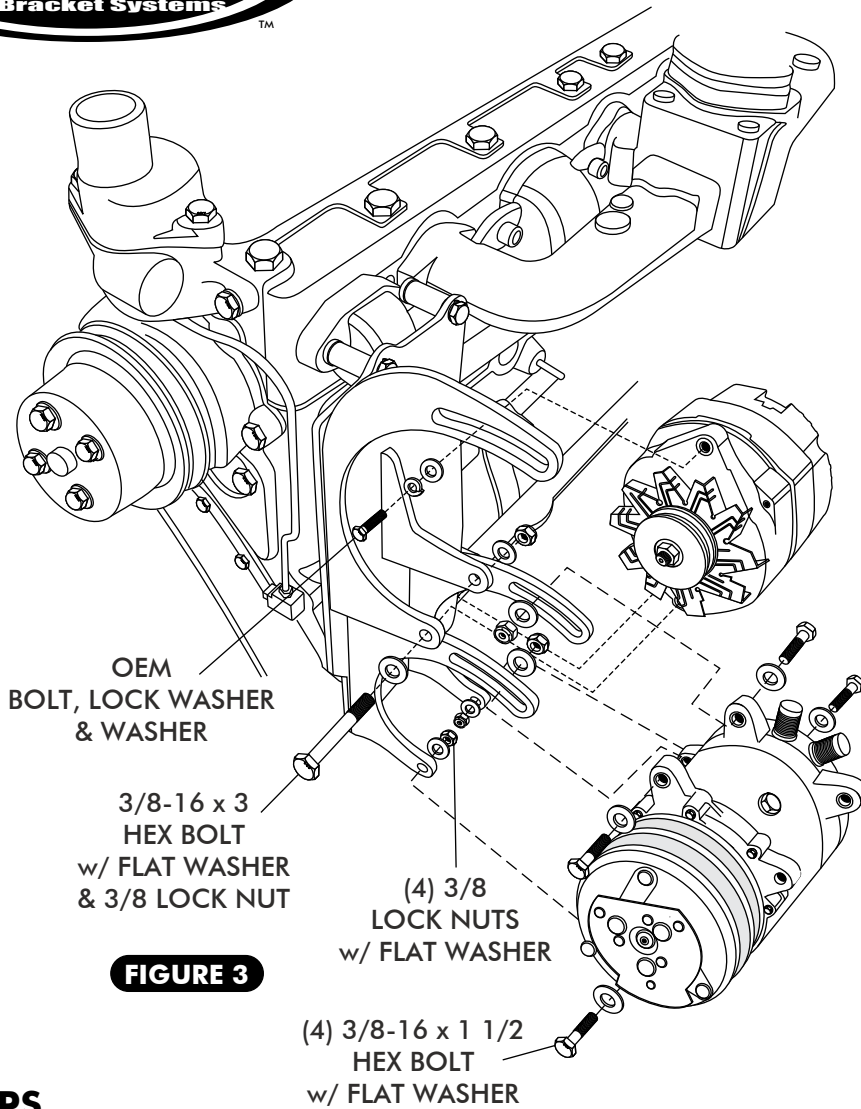

FIGURE 3
6.	COMPRESSOR/ ALTERNATOR INSTALLATION CONT. FIGURES 3 & 4
- INSTALL COMPRESSOR TO MOUNTING BRACKET, USING (4) 3/8-16 x 1 1/2 BOLTS w/ FLAT WASHER AND 3/8-16 LOCKNUTS, AS SHOWN IN FIGURE 3, PAGE 6.
- USING THE OEM BOLT w/ LOCK WASHER, AND 3/8 FLAT WASHER INSTALL THE TOP OF THE ALTERNATOR TO THE UPRIGHT ALTERNATOR MOUNTING BRACKET, AS SHOWN IN FIGURE 3, PAGE 6.